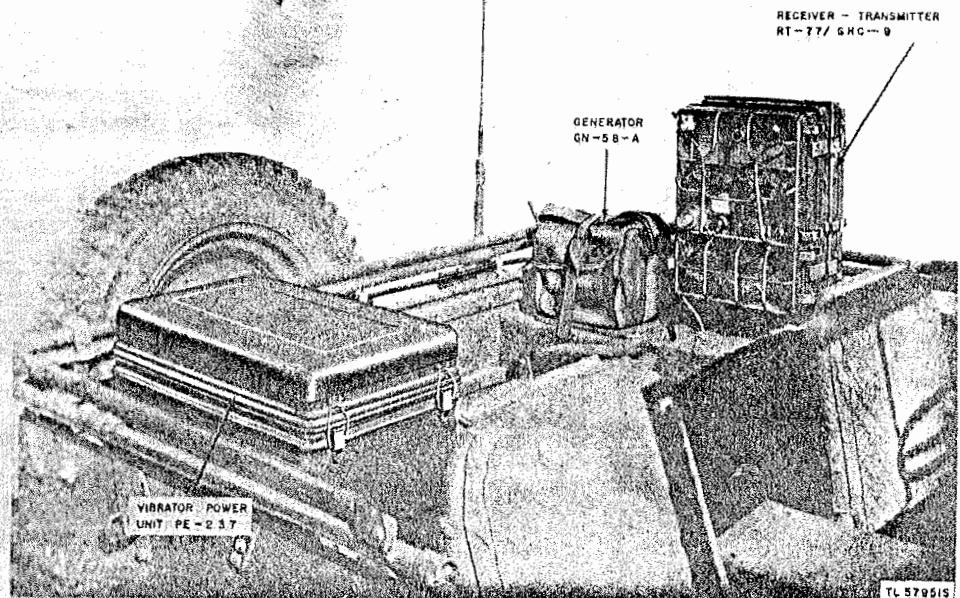

Figure 44. Typical vehicular installation of radio set AN/GRC-9.
34. Vehicular Installation (fig. 44)
e. A typical vehicular installation of Radio Set AN/GRC-9 is shown in figure 44.